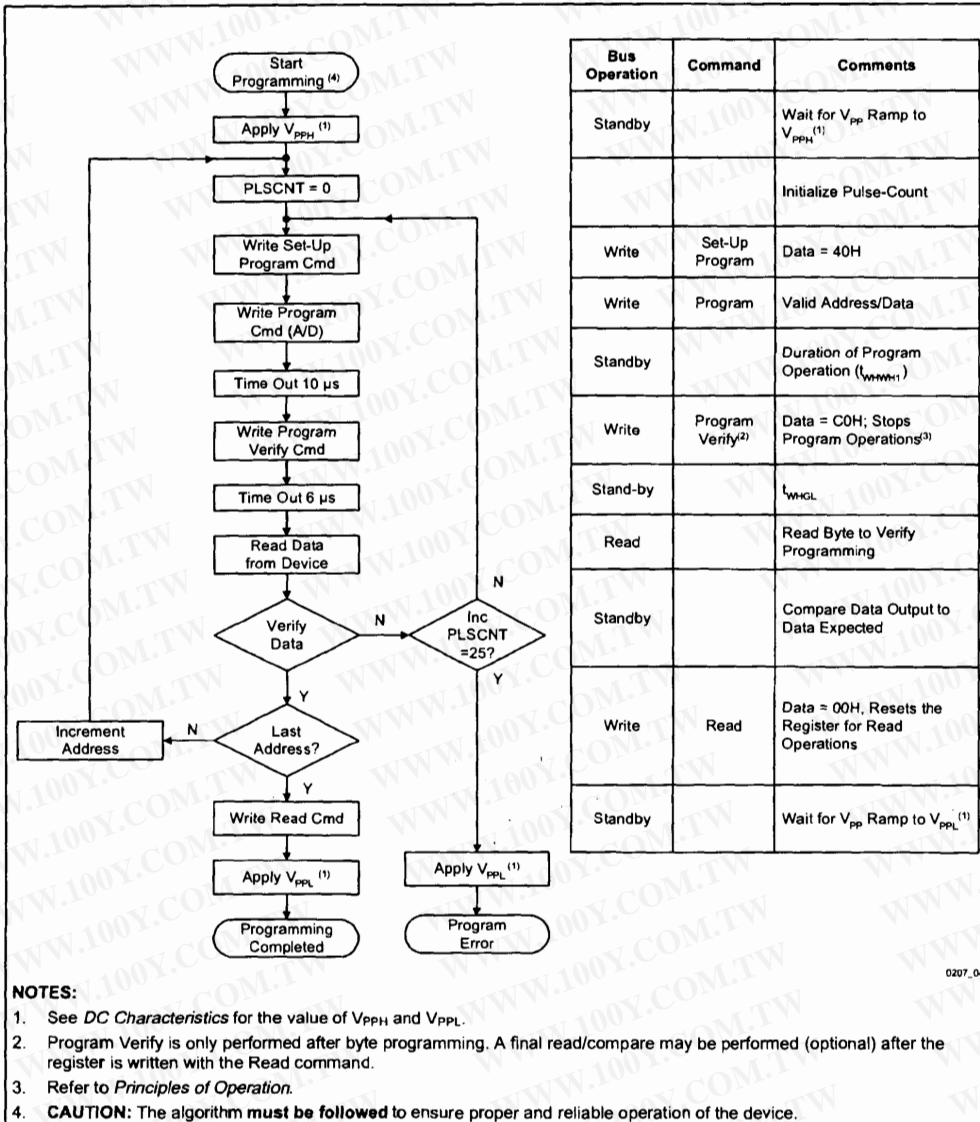

Figure 4. 28F010/28F020 Quick-Pulse Programming Algorithm
- Figure 4 illustrates the 28F010/28F020 Quick-Pulse Programming Algorithm flowchart.
The quick-pulse programming algorithm uses programming operations of 10  $\mu$ s duration. Each operation is followed by a byte verification to determine when the addressed byte has been successfully programmed. The algorithm allows for up to 25 programming operations per byte, although most bytes verify on the first or second operation. The entire sequence of programming and byte verification is performed with  $V_{PP}$  at high voltage. Figure 4 illustrates the *28F010/28F020 Quick-Pulse Programming Algorithm* flowchart.